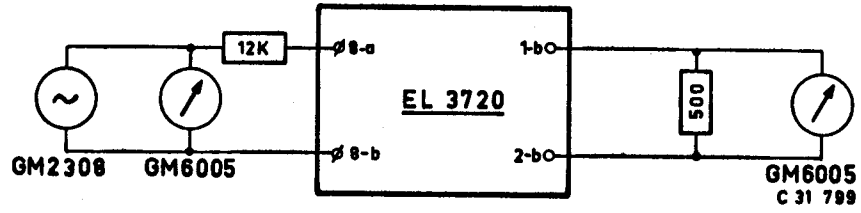

Fig2
- Connect the amplifier as shown in fig. 2.